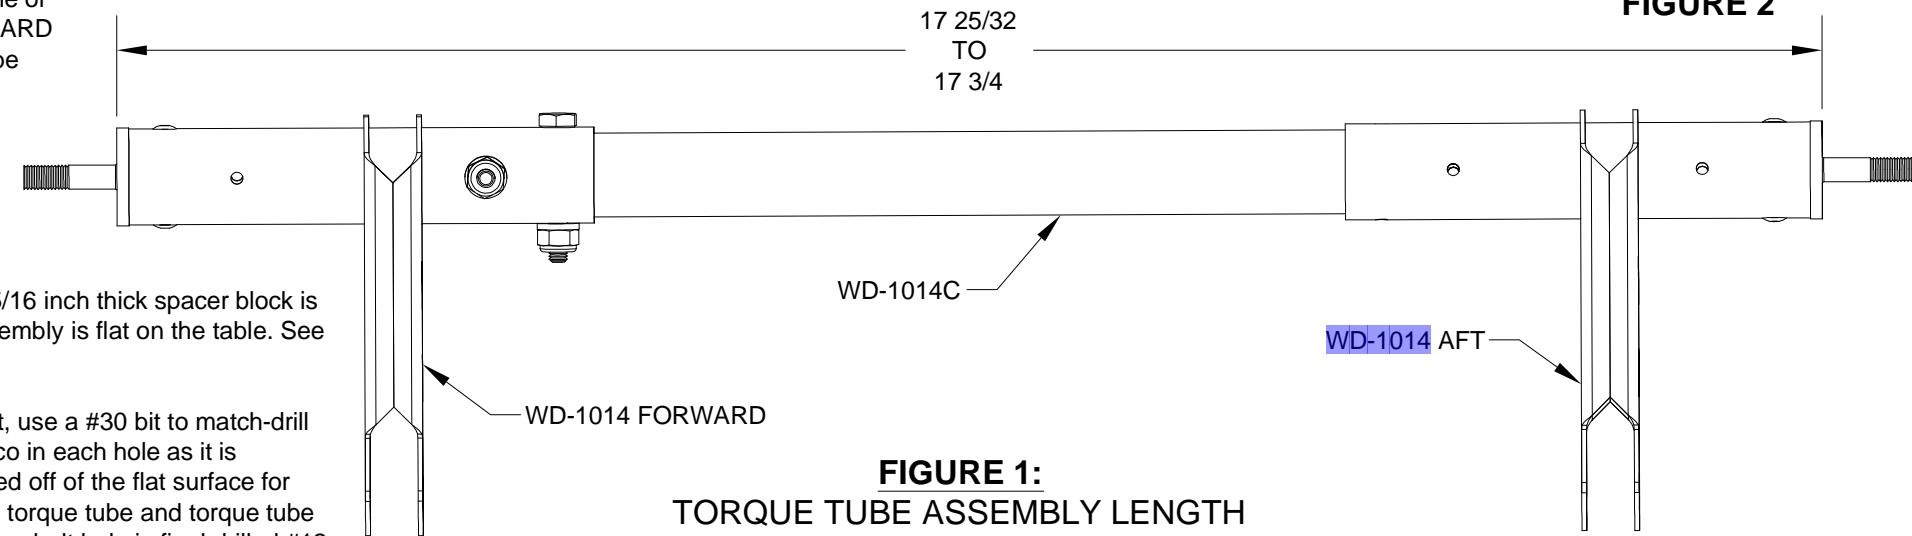

FIGURE 1:
Step 2: When assured that both the engagement and clocking of the torque tube assembly is correct, use a #30 bit to match-drill the torque tube collar using the holes in the aft torque tube subassembly as drill guides. Install a cleco in each hole as it is match-drilled. After the first hole is match-drilled and clecoed, the torque tube assembly can be moved off of the flat surface for drilling the remaining holes. See Figures 3 and 4. Using a #12 bit, final-drill through both sides of the torque tube and torque tube collar. Install a bolt, washer, and nut as shown in Page 23-7, Figure 1 to hold alignment while the other bolt hole is final drilled #12.
Step 3: Create the right side torque tube assembly by inserting the aft end of the remaining **WD-1014C** Torque Tube Collar into the open end of the remaining **WD-1014 AFT** Aft Torque Tube Subassembly as shown in Figure 1.
Adjust the engagement of the torque tube collar and the aft torque tube subassembly such that the overall length is as shown in Figure 1.